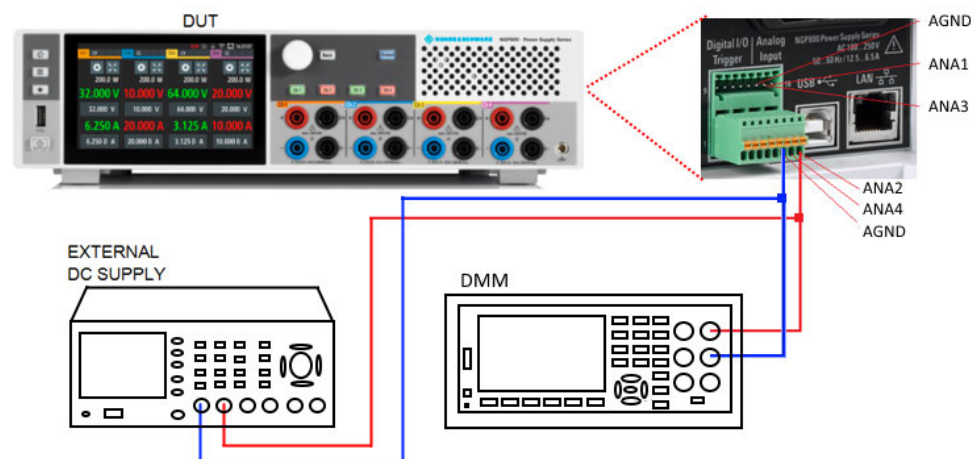

Figure 7-64: Analog input adjustment setup
4. Setup the adjustment with instruments illustrated in Figure 7-64.